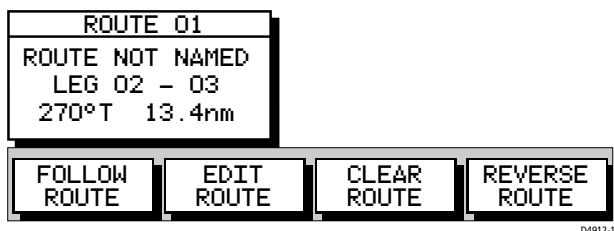

Figure 3-35: Route Leg Data Box and Soft Keys
- To display information about a route leg, move the cursor over the leg until the letters RTE appear. The Route Leg data box is displayed, together with the Follow Route soft keys as shown in *Figure 3-35*.
1. Place the cursor over a route leg until the text RTE is displayed. The Route soft keys are displayed as shown in *Figure 3-35*.
1. Move the cursor over the route leg into which a waypoint is to be inserted; the letters RTE appear and the Route Leg Data Box and Route soft keys are displayed, see *Figure 3-35*.